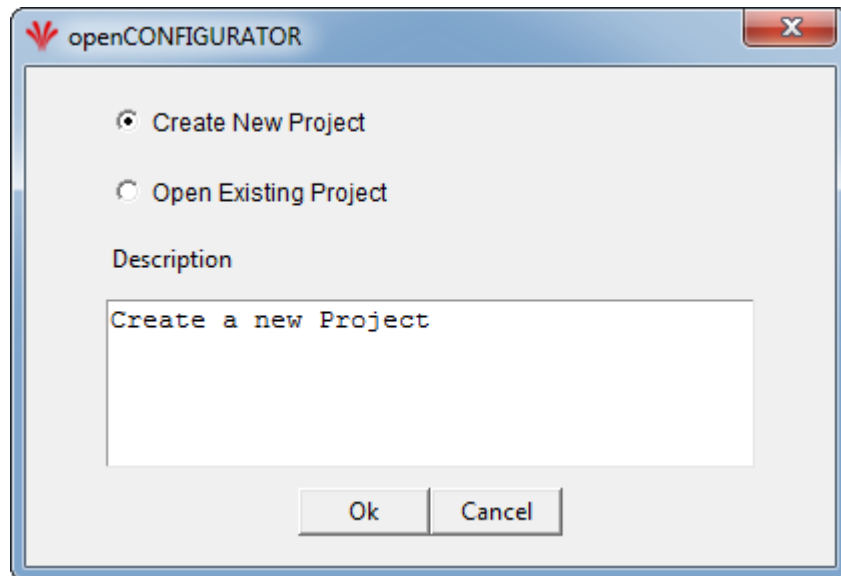

Figure 10: Project wizard
- When the user launches openCONFIGURATOR, it will ask either to **Create New Project** or **Open Existing Project** as shown in Figure 10: Project wizard.